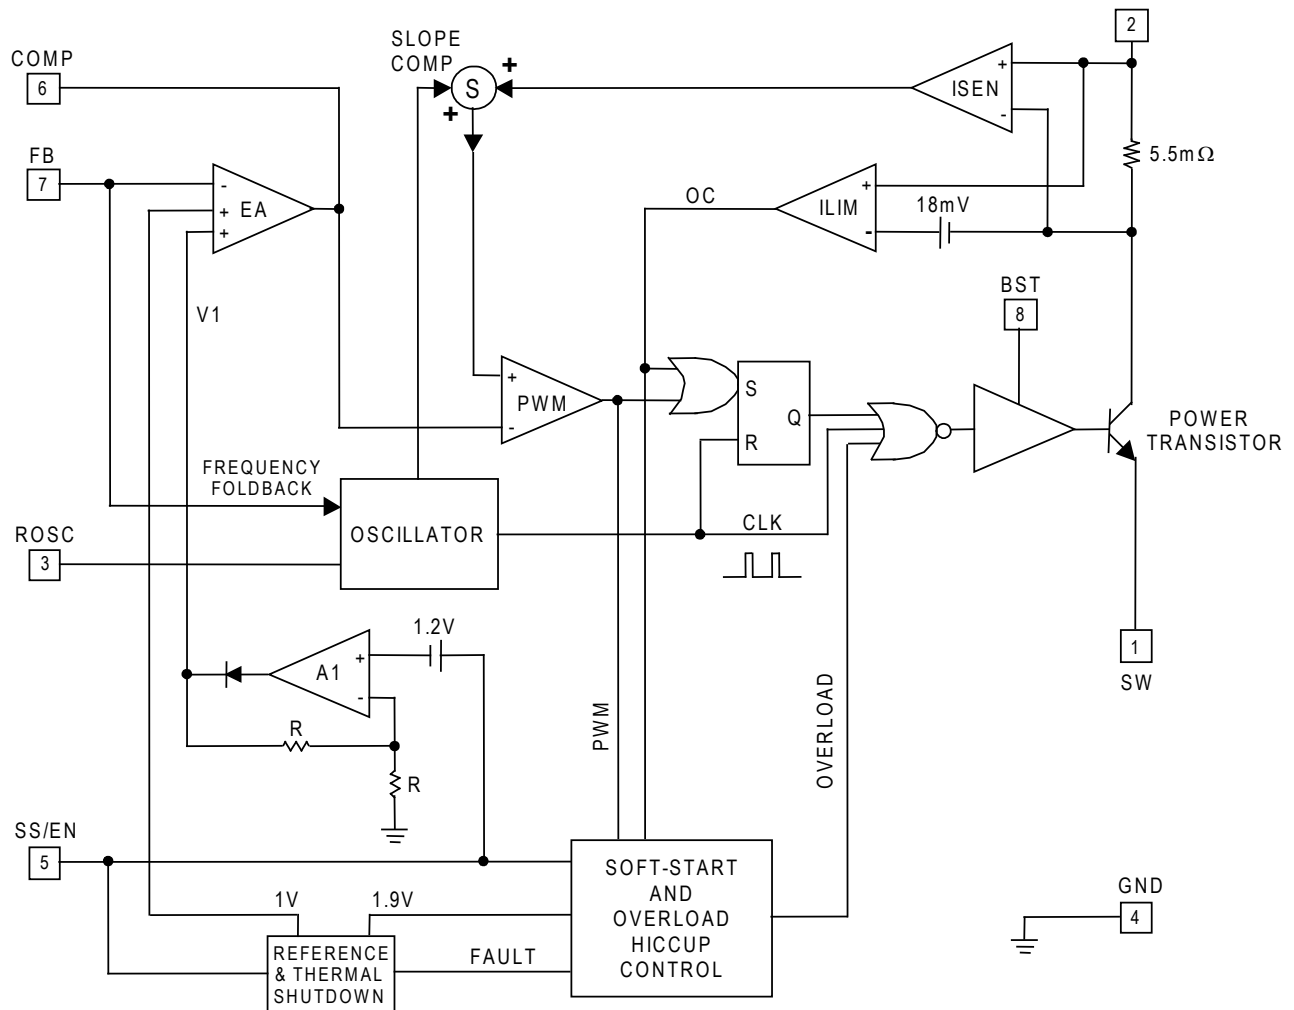

Figure 2 — SC4524E Block Diagram
As shown in Figure 2, the switch collector current is sensed with an integrated 5.5mΩ sense resistor. The sensed current is summed with a slope-compensating ramp before it is compared with the transconductance error amplifier (EA) output. The PWM comparator trip point determines the switch turn-on pulse width. The current-limit comparator ILIM turns off the power switch when the sensed signal exceeds the 18mV current-limit threshold.
The error amplifier EA in Figure 2 has two non-inverting inputs. The non-inverting input with the lower voltage predominates. One of the non-inverting inputs is biased to a precision 1V reference and the other non-inverting input is tied to the output of the amplifier A_1 . Amplifier A_1 produces an output $V_1 = 2(V_{SS/EN} - 1.2V)$. V_1 is zero and COMP is forced low when $V_{SS/EN}$ is below 1.2V. During start up, the effective non-inverting input of EA stays at zero until the soft-start capacitor is charged above 1.2V. Once $V_{SS/EN}$ exceeds 1.2V, COMP is released. The regulator starts to switch when V_{COMP} rises above 0.4V. If the soft-start interval is made sufficiently long, then the FB voltage (hence the output voltage) will track V_1 during start up. $V_{SS/EN}$ must be at least 1.83V for the output to achieve regulation. Proper soft-start prevents output overshoot. Current drawn from the input supply is also well controlled.
the regulator, the current-limit comparator ILIM (Figure 2) will eventually limit the switch current on a cycle-by-cycle basis. The over-current signal OC goes high, setting the latch B₃. The soft-start capacitor is discharged with (I_D - I_C) (Figure 3). If the inductor current falls below the current limit and the PWM comparator instead turns off the switch, then latch B₃ will be reset and I_C will recharge the soft-start capacitor. If over-current condition persists or OC becomes asserted more often than PWM over a period of time, then the soft-start capacitor will be discharged below 1.9V. At this juncture, comparator B₄ sets the overload latch B₂. The soft-start capacitor will be continuously discharged with (I_D - I_C). The COMP pin is immediately pulled to ground. The switching regulator is shut off until the soft-start capacitor is discharged below 1.0V. At this moment, the overload latch is reset. The soft-start capacitor is recharged and the converter again undergoes soft-start. The regulator will go through soft-start, overload shutdown and restart until it is no longer overloaded.
The PWM latch in Figure 2 is reset every cycle by the clock. The clock also turns off the power transistor to refresh the bootstrap capacitor. This minimum off time limits the attainable duty cycle of the regulator at a given switching frequency. The measured minimum off time is 138ns typically. If the required duty cycle is higher than the attainable maximum, then the output voltage will not be able to reach its set value in continuous-conduction mode.